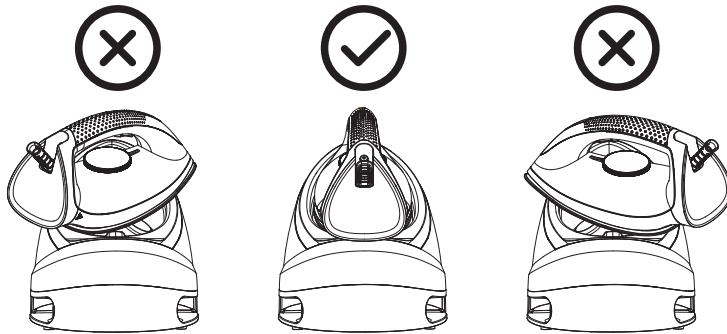

Fig.3
When the iron is put on the thermal insulation stand, it must be placed on it correctly (see Fig.3).
2. Put the iron on the thermal insulation stand of unit base correctly (see Fig.3).
3. Put the iron on the thermal insulation stand of unit base correctly (see Fig.3).